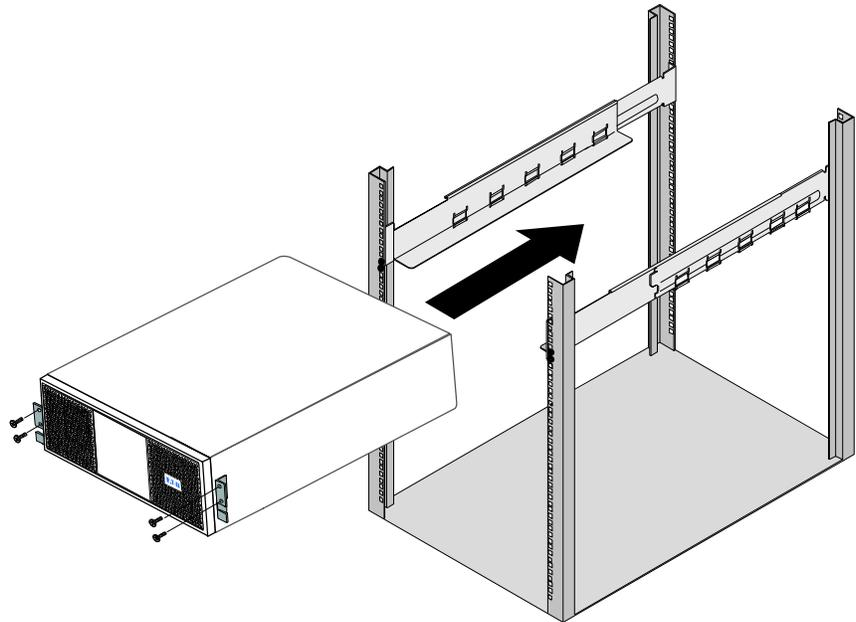

Figure 5. Installing the Cabinet in the Rack
- 4.** Set the rear of the cabinet on the cabinet mounting flanges and slide the cabinet into the rack (see Figure 5).